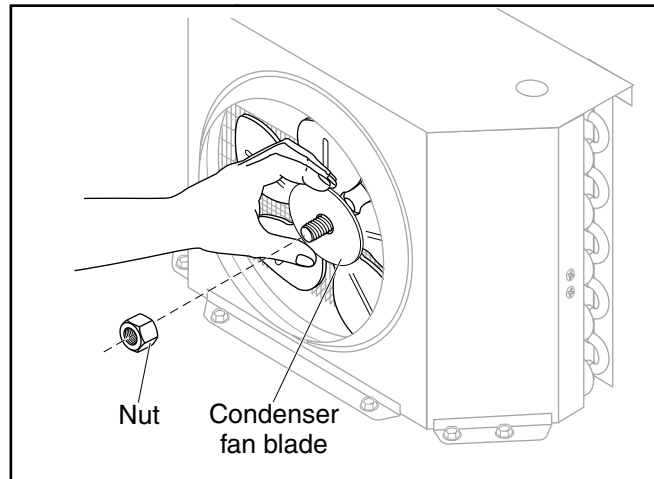

Figure 9. Condenser Fan Blade
3. While holding the condenser fan blade (Figure 9), remove the lock nut from the center of the condenser fan blade.